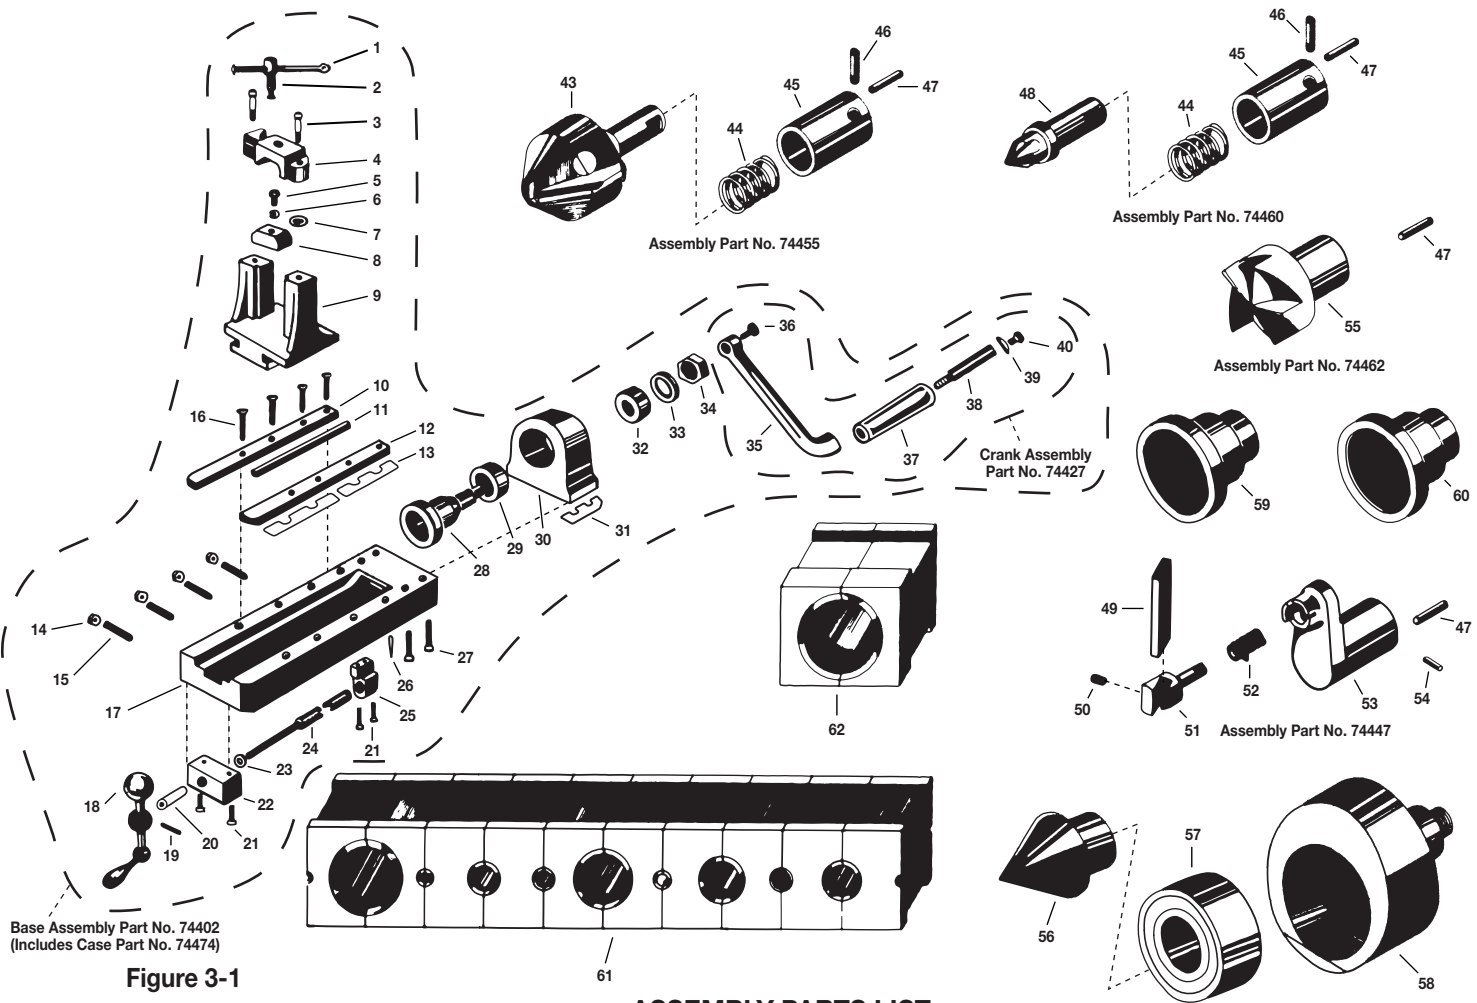

Figure 3-1
- a. Lead screw, 24, figure 3-1.
- b. Thrust collar, 23, figure 3-1.
- c. Base slide surfaces, 17, figure 3-1.
- d. Clamp screw, 2, figure 3-1.